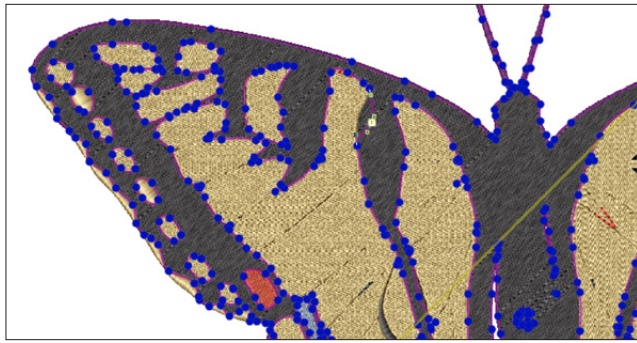

Figure 32
5. To create an overlay, select the object and click on the Reshape tool. Points will appear on the object that you can drag to create an overlap. Click the points as you hold Shift and drag them to the desired position. **See Figure 32.**